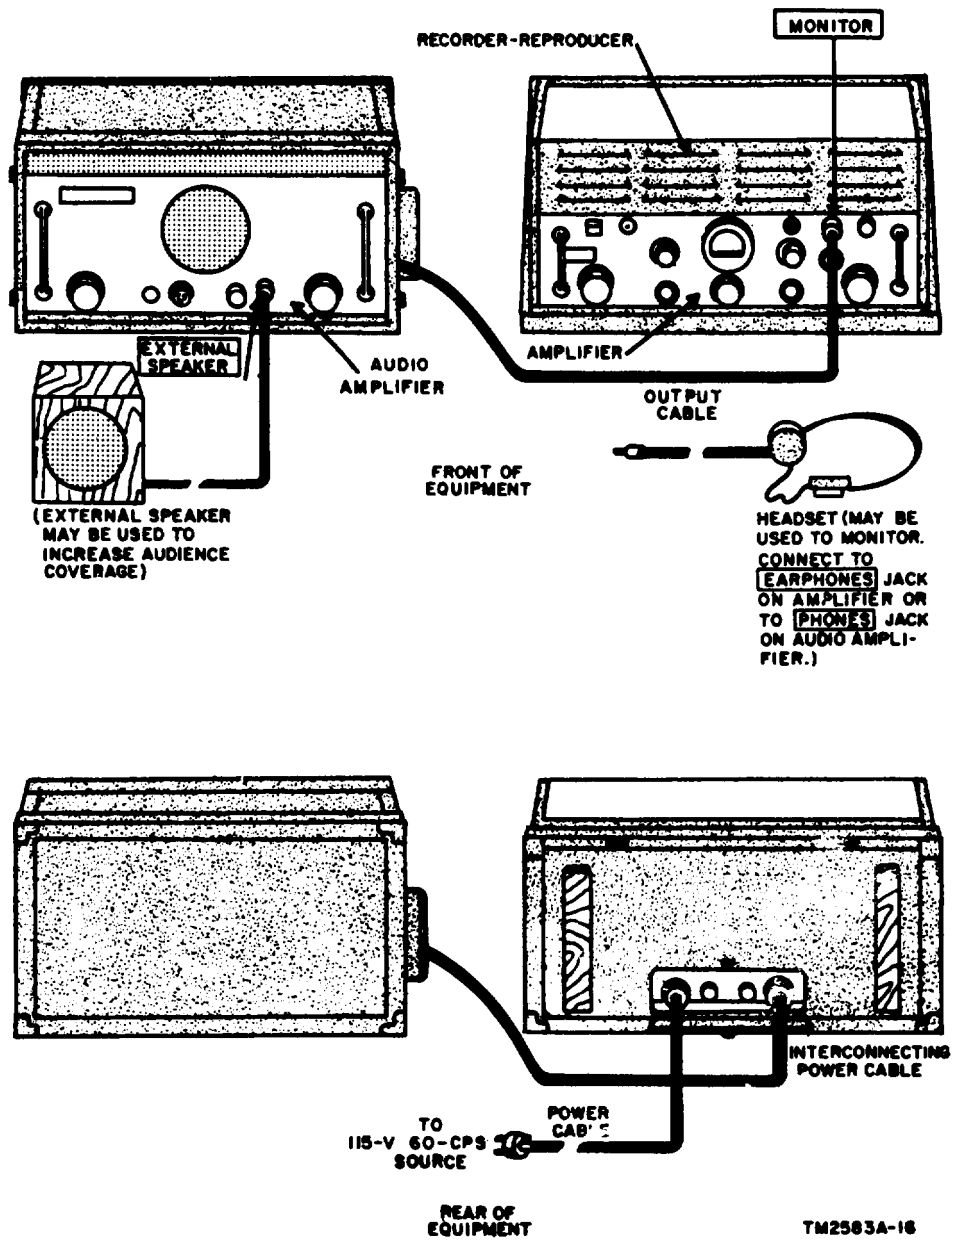
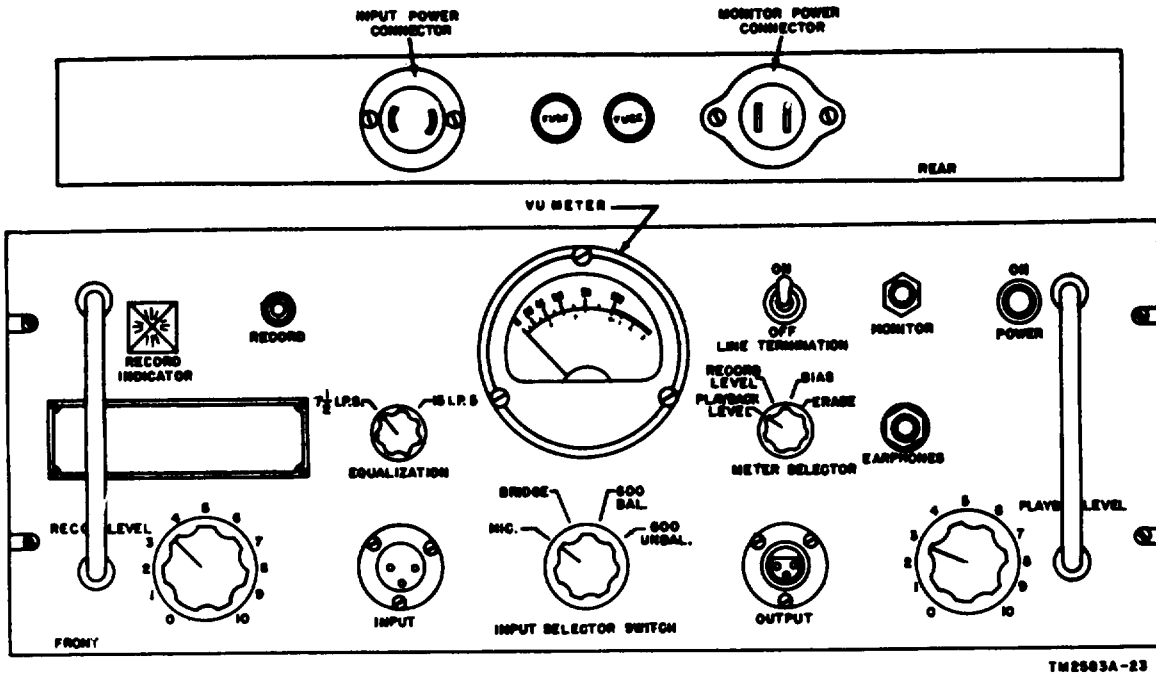
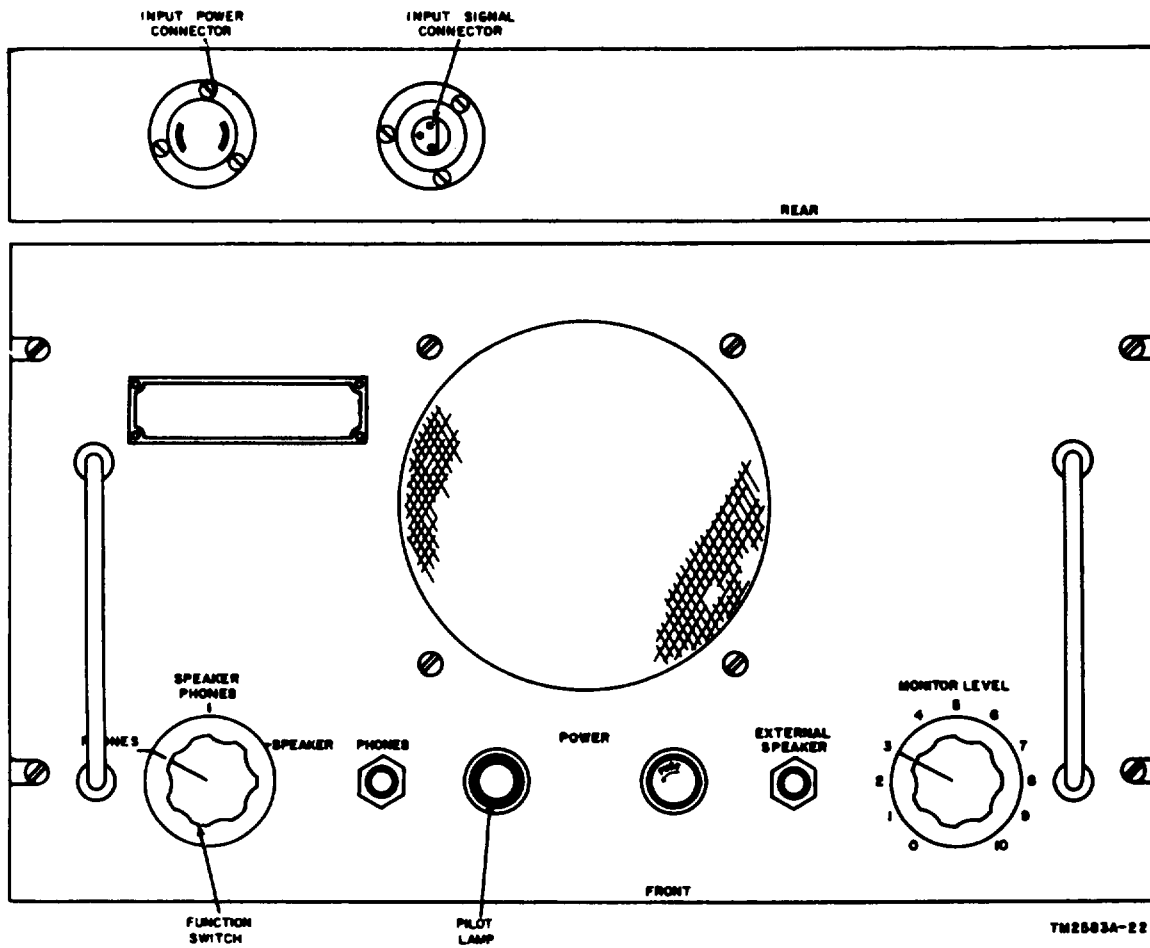

Figure 11. Equipment setup for playback
Figure 12. Amplifier, front and rear panels.
Figure 13. Audio amplifier, front and rear panels.
(a) Insert the headset plug in the EARPHONES jack on the amplifier panel (fig. 12).
- (b) Insert the headset plug in the PHONES jack on the audio amplifier panel (fig. 13).
- (1) Listen to the recording for quality. Turn the METER SELECTOR switch to the RECORD LEVEL position. If required, adjust the RECORD LEVEL control to keep the vu meter indicator from passing the 100 mark on the sound peaks.
- (2) Turn the METER SELECTOR switch to the BIAS position. The vu meter should indicate 100.
- (3) Turn the METER SELECTOR switch to the ERASE position. The vu meter should indicate 100.
- (4) Adjust the PLAYBACK LEVEL or MONITOR LEVEL control (fig. 12 and 13), depending upon which amplifier is being used, for comfortable sound volume in the headset. For control of loudspeaker volume, adjust the MONITOR LEVEL control only.
- (5) Return the METER SELECTOR switch to the RECORD LEVEL position and adjust the RECORD LEVEL control as required during the recording to keep the vu meter indicator from passing the 100 mark on sound peaks.
18. Reproducing or Playback Operation (fig. 11)
- b.* Move the METER SELECTOR switch to the PLAYBACK LEVEL position (fig. 12).
- d.* Connect a headset to the PHONES (fig. 13) or EARPHONES (fig. 12) jack. If the headset is connected to the PHONES jack on the audio amplifier, move the function switch to the PHONES position. If the information is to be played back for a small audience, move the function switch to the SPEAKER or the SPEAKER PHONES position.
(fig. 11)
b. Connect the microphone to the INPUT connector on the amplifier (fig. 12).
a. Amplifier (fig. 12).
- (1) DA Form 11-251 is a preventive maintenance check list to be used by a second echelon repairman as directed by his commander.
- (2) Items not applicable to the recorder-reproducer set are lined out on figure 13. References in the ITEM block in the figure are to paragraphs in this manual which contain additional maintenance information pertinent to the particular item.